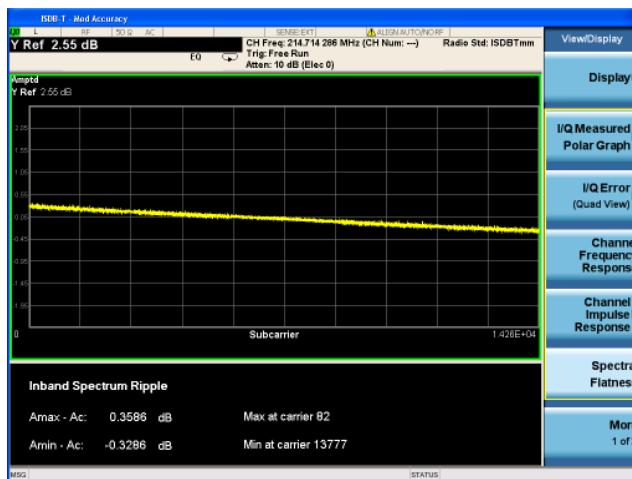

Figure 24. Spectrum flatness view for ISDB-Tmm signals
View the spectral flatness results (Figure 24)	[View/Display] {Spectral Flatness}
- **Spectrum flatness** view (Figure 24): This two-window view shows the spectrum ripples in the transmission bandwidth.